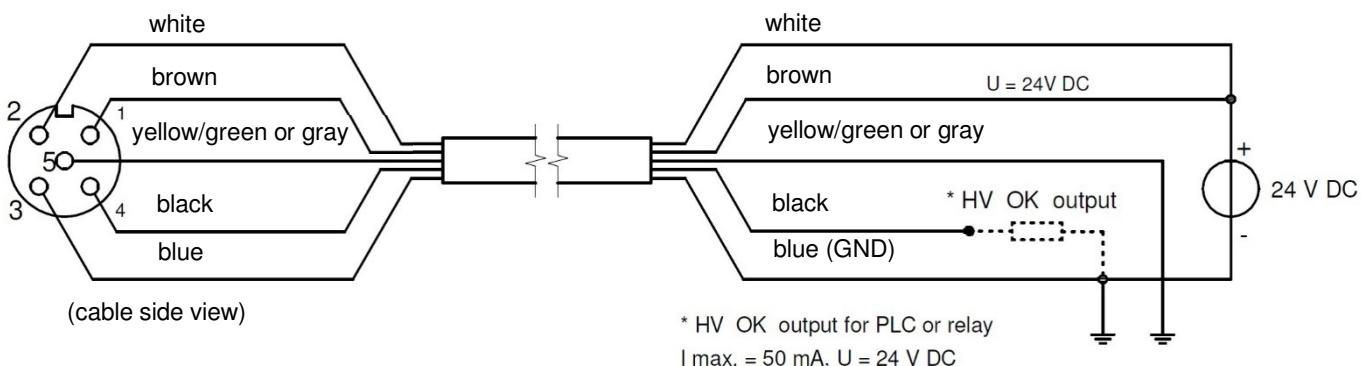

Figure 5: wiring power cable Cleanflex Easy
- Connect the wiring according to figure 5 and table 1.